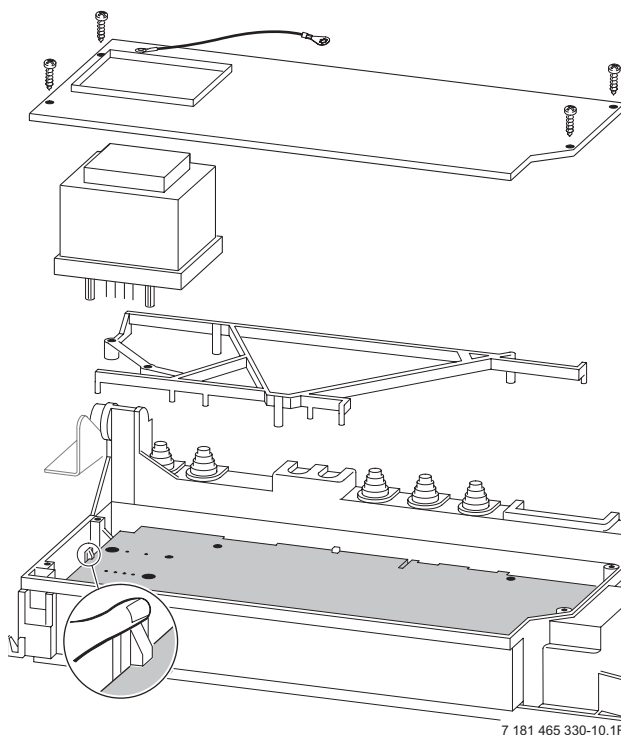

Fig. 57
- ▶ Unscrew four fixing screws from cover plate. Refer to fig. 57.